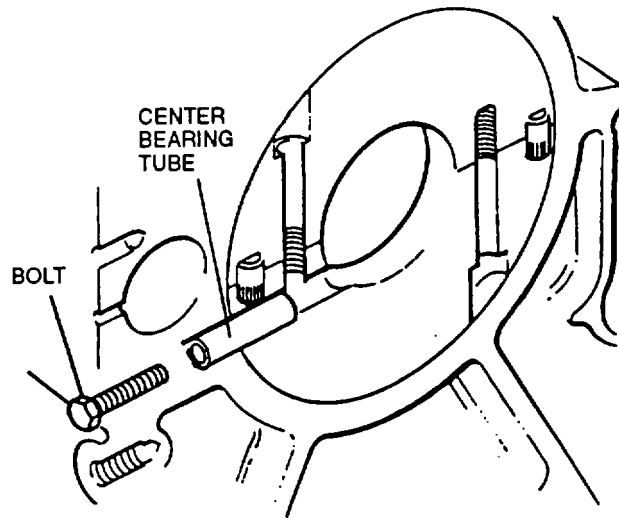

FIGURE 3-39. Center Bearing Tube
- d. Use an intake manifold bolt to remove center bearing tube, refer to FIGURE 3-39. Leave bolt in tube until it is installed to ensure tube is installed correct way.